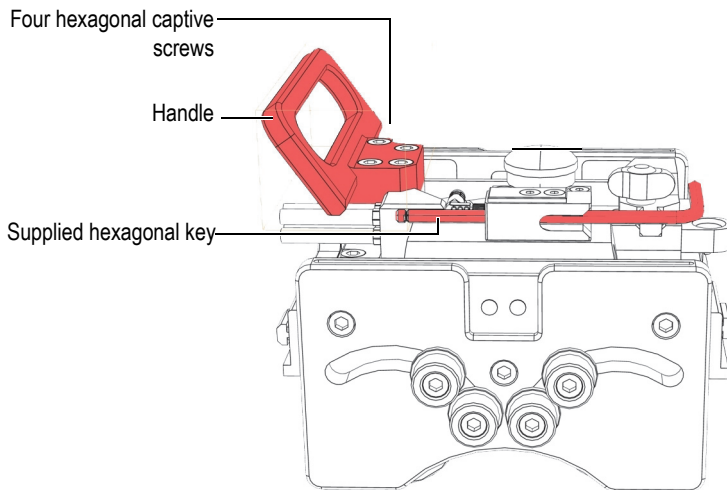

Figure 2-10 WeldROVER—removing the handle
2. Use the supplied hexagonal key to unscrew the four captive screws (see Figure 2-10 on page 32).